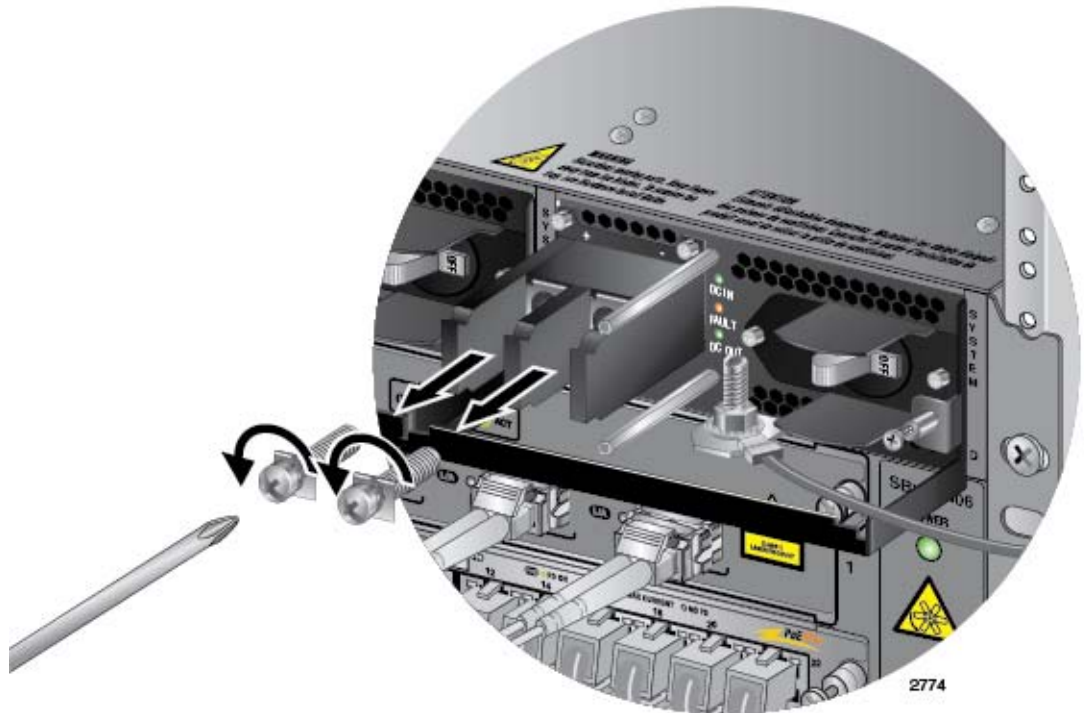

Figure 147. Removing the Terminal Screws
5. Use a #3 Phillips-head screwdriver to remove the two screws from the positive and negative terminals, as shown in Figure 147 on page 205.